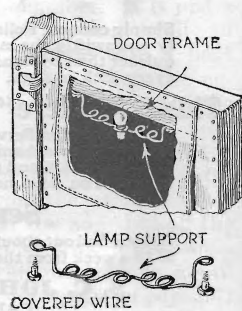

Fig. 7. An easily accessible holder, made of wire, protects bulbs and can be fitted in door pocket
**I**T IS certainly worth-while to carry spare bulbs for headlights, sidelights and tail-light on your car. No one can predict just when they will be needed. A simple holder for bulbs, made of wire, is shown in Fig. 7, bent into loops the right size and then screwed into the door frame.